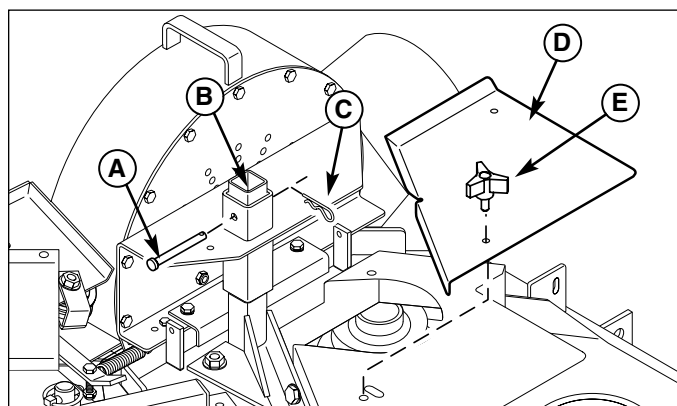
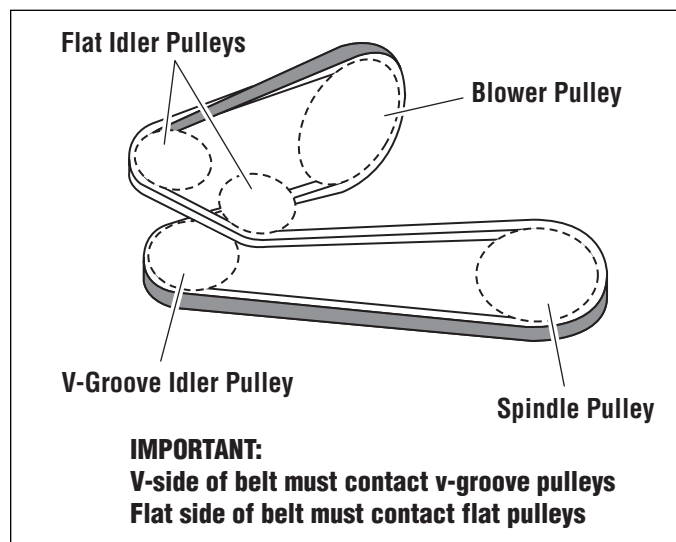

Figure 18. Install Belt Shield & Clevis Pin
Figure 19. Belt Routing
4. Install the 3/8" x 4" clevis pin (A, Figure 18) and hair pin clip (C) as shown.
5. Install the plastic cap (B) in the end of the blower mount bar.
6. Pull the idler arm lever against the spring to install the drive belt on the spindle pulley (see Figure 19 for belt routing). The tension idler should be approximately 3/4" - 1" (1,90 - 2,54cm) away from the blower housing when belt is installed. If not, remove the belt shield and drive belt from the spindle pulley and reposition the top idler pulley in the inside row of holes until the measurement is achieved.
8. Install the deck belt shield (D) and secure with the plastic knobs (E).
3. Install the 3/8-16 x 1-1/2" bolts and 3/8" washers (C) through the top mount holes as shown in Figure 18. Install the support bar (D) and secure with the 3/8-16 nylock flange nuts (E).